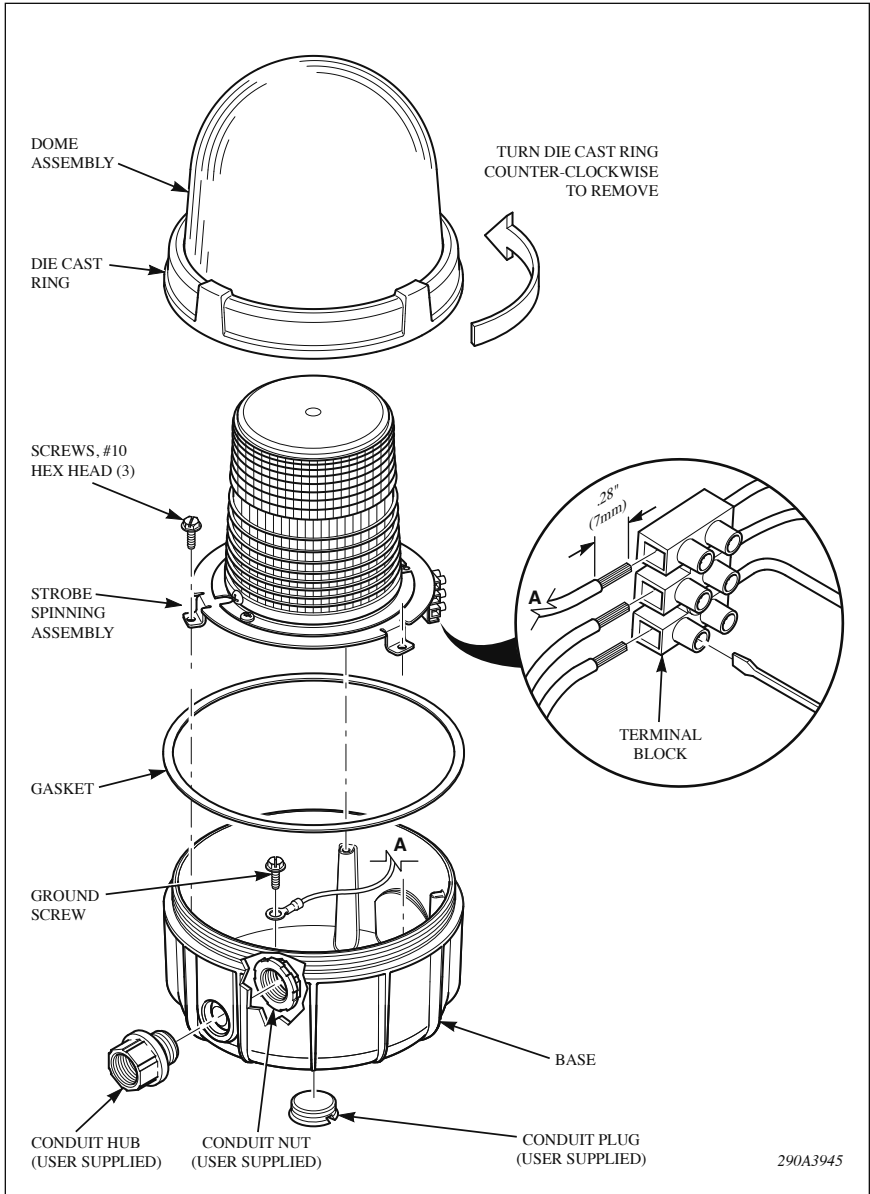

Figure 2
D. Electrical Connections (see Figure 2)